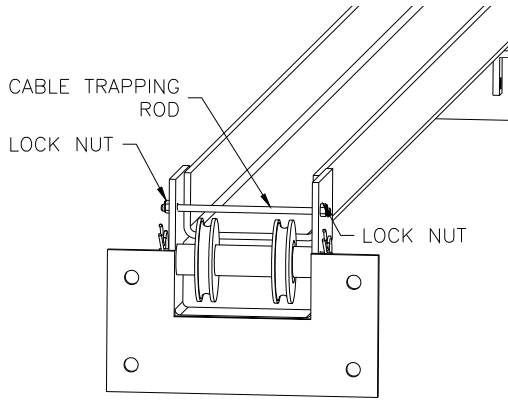

Fig. 5-Cable Trapping
- 17) At the upper beam sheave locations disassemble and reassemble the cable trapping rod to install the cable onto the sheave, See **Fig. 5**. To install the cable bottom sheave will need to be removed then reassembled.